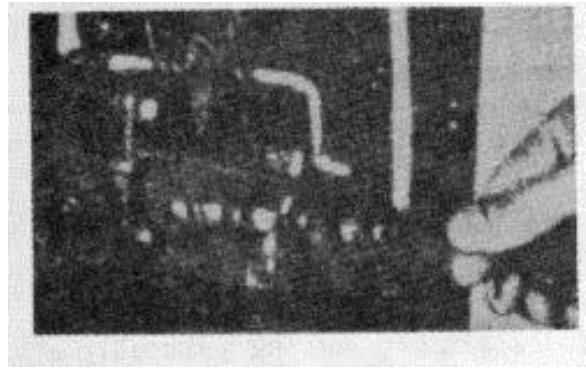

Figure 9 - Cut-Off Timing Adj.
A hole in the outside leaf of the cut-off switch permits insertion of an Allen wrench into the end knob of the slide rod (see Figure 9). A clockwise rotation of this knob produces a slower breaking of the welder circuit. This will produce more heat at the point of the weld. A counter-clockwise adjustment will allow less heat to prevent "burning of" of the weld.
- (c) Press the welding lever and check the cut-off switch. There should be a gap between the contact points of 1/32 in. to 3/64 in. Adjust with the Allen wrench if necessary (see Figure 9).